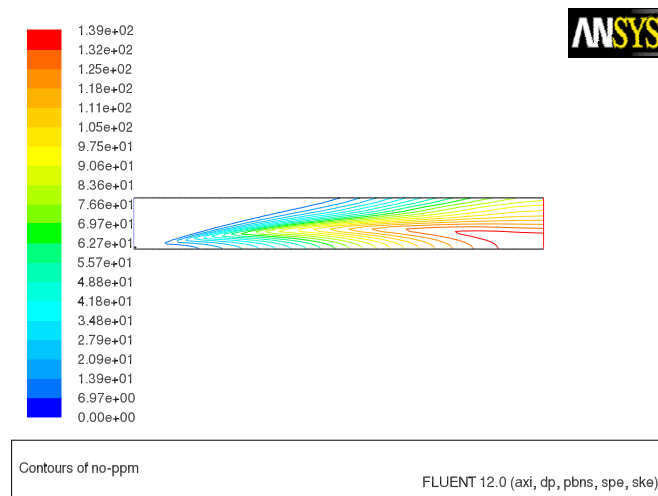

Figure 14.15: Contours of NO ppm—Prompt NO_x Formation
18. Display contours of NO ppm (Figure 14.15).